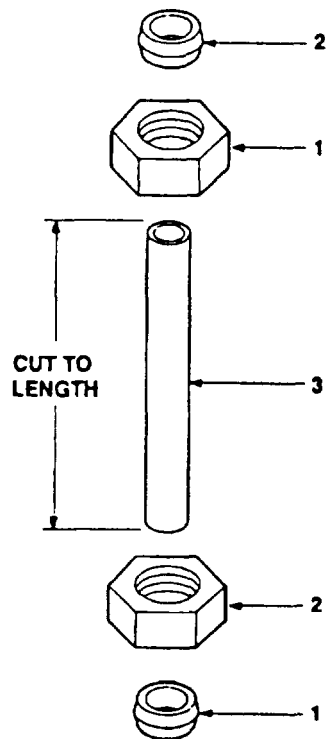

Figure F-3. Hose Assembly.
- a. Refer to Figure F-3 and obtain materials.